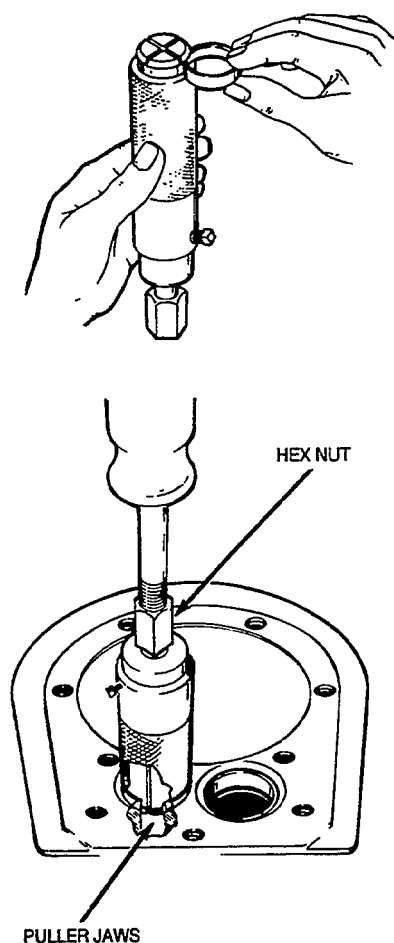

FIGURE 9-10. VALVE SEAT REMOVAL
2. Select the proper size puller (determined by the inside diameter of the valve seat). The puller jaws must expand into the cylinder block at the point where the bottom of the valve seat insert rests on the cylinder block (Figure 9-10).